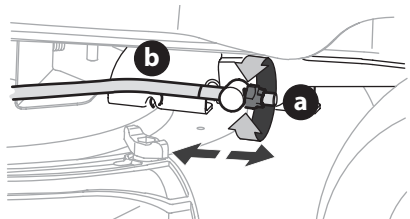

Figure 31
3. Locate the flange lock nut (a) on the front end of the PTO lift rod (b) (Figure 31).